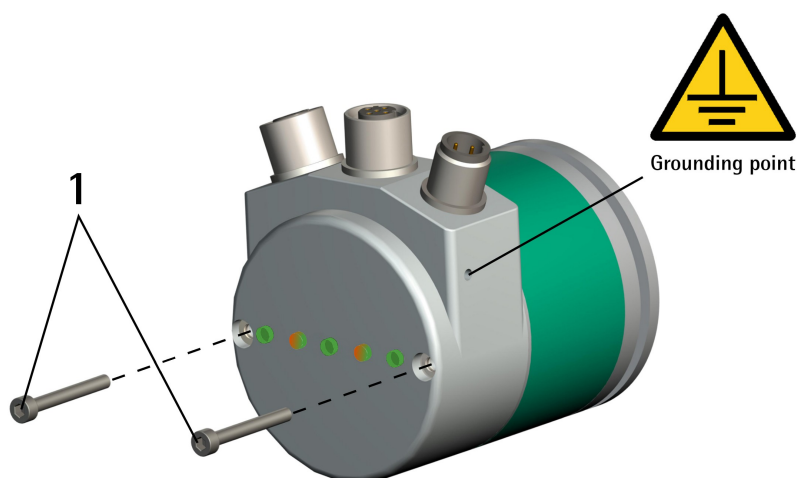

Figure 2 - Removing the connection cap
To access the DIP A DIP switch meant to reset the network configuration parameters to the factory values (default values) you must remove the connection cap. For any information on removing the connection cap please refer to the following "4.9 Connection cap (Figure 2)" section.
- remove the connection cap as explained in the following "4.9 Connection cap (Figure 2)" section;
- replace the connection cap as explained in the following "4.9 Connection cap (Figure 2)" section;
4.9 Connection cap (Figure 2)